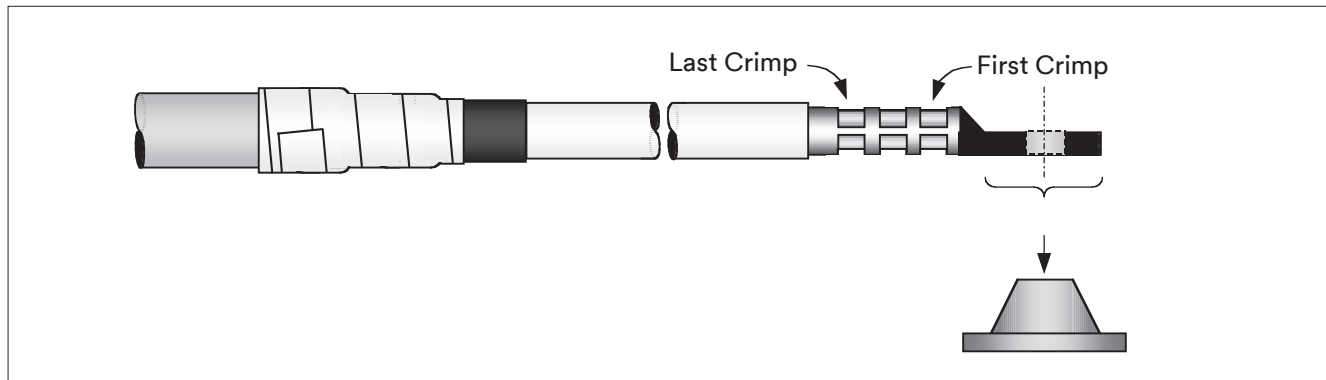

Figure 22
- b. Ensure that each lug face is parallel to equipment bushing or lug connection interface (Figure 22).
- c. Crimp terminal lug according to manufacturer recommendations. Start at the upper end as shown (Figure 22). Remove all traces of oxide inhibitor that may have come out of lug barrel during crimping.